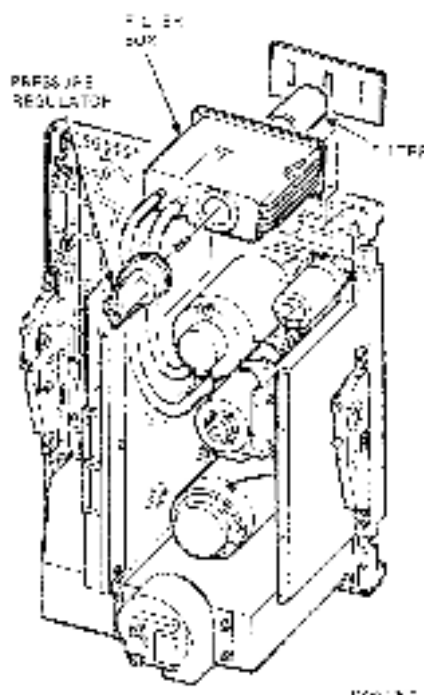

Figure 4-14 Pressure Regulator/Air Filter Assembly
2. Remove two pressure tubes (Figure 4-14) from plenum box.
3. Unscrew pressure regulator by turning counterclockwise (Figure 4-14).